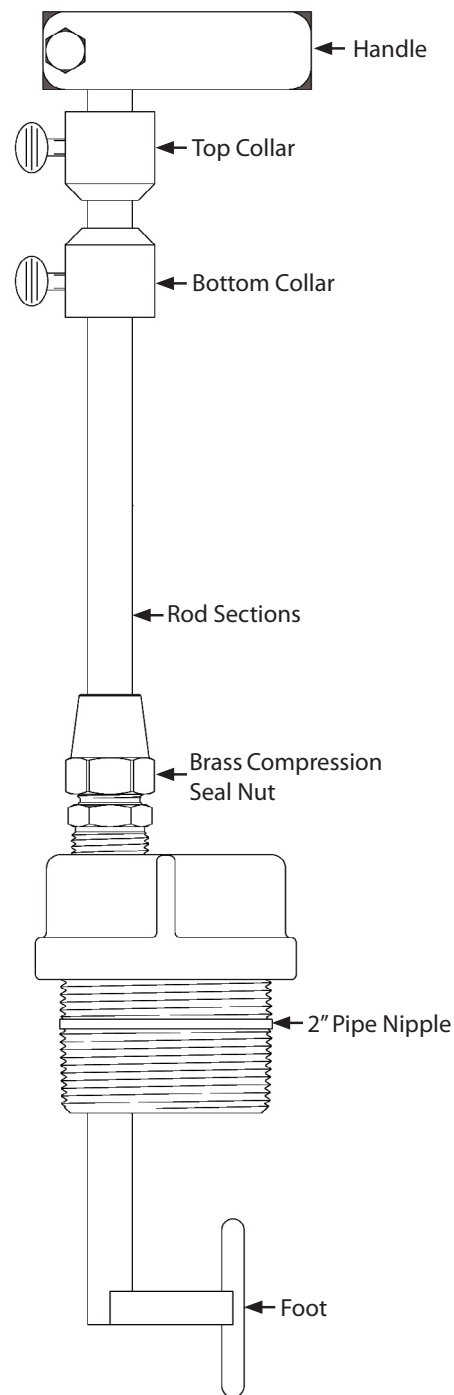

Figure 1: Pipe Caliper Tool
1. Assemble the pipe caliper, as shown in *Figure: 1* with enough rod sections to provide a total length equal to the expected pipe I.D. + 18". For applications with long nipples connecting the valve to the pipe, extra thick pipe walls or multiple valves, the total rod length will need to be extended.